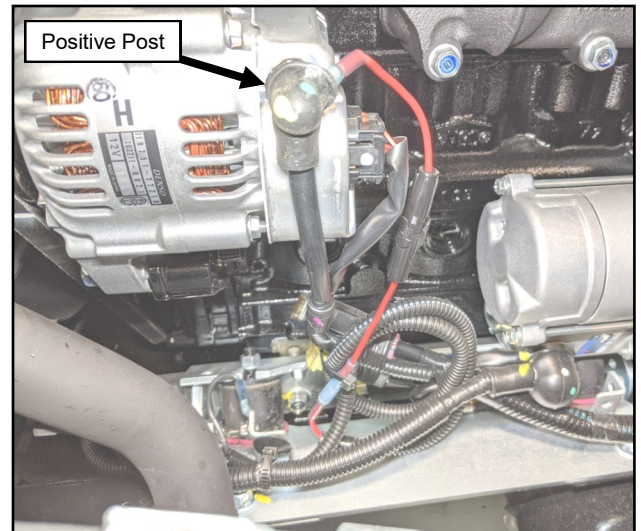

Fig. 19.5 (Connect Harness to Alternator)
19.5 Connect the supplied fuse harness ring terminal to the positive post on the back of the alternator. See Figure 19.5. Connect the red wire from the cab power harness to the other side of the fuse harness. Coil up excess harness and wire tie in place.